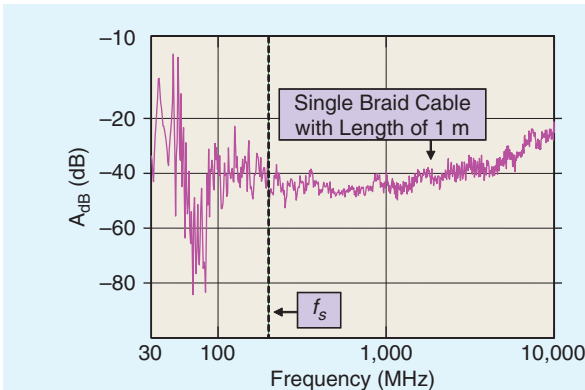

Fig. 8. RG-58 single braid coaxial cable measurement of the shield attenuation as given in equation (5).
In order to complete the previous results, the curve drawn in figure 8 represents the evolution of the shielding attenuation measured in a reverberation chamber on a RG-58 1 meter cable sample. In accordance with the definition reported in
At a close examination, the curve in figure 8, at 200 MHz and 1 GHz frequencies, reveals attenuations which are almost identical and close to -48 dB. Knowing that the propagation speed inside the cable is close to $v_2 = 2.10^8$ m/s, after having applied the correction in (31), at 200 MHz and 1 GHz we find transfer impedances of 2.4 Ω/m and 12 Ω/m , respectively. These values are then very close to the measures performed on the 10 cm sample without correction. If the shielded cable transfer impedance continuously evolves following a law proportional to the frequency, an analysis of (30) and (31) shows that the shielding
attenuation must be kept independent of frequency. Actually, the curve in figure 8 shows a rise above 1 GHz which seems to strengthen the hypothesis of an additional leakage due to the extremities connectors.